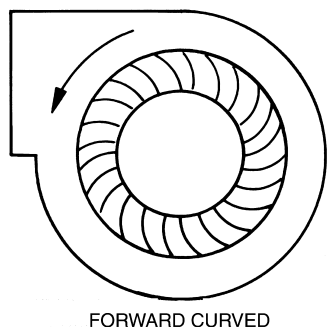

Fig. 45 — Fan Wheel Rotation
7. Check direction of rotation (see Fig. 45). Arrow on drive side of fan housing indicates correct direction of rotation.
coil with the downstream bottom of the coil attached to the upright mounting flange as shown in Fig. 45. Adjust the coil and then attach the top coil baffle to the top flange provided.